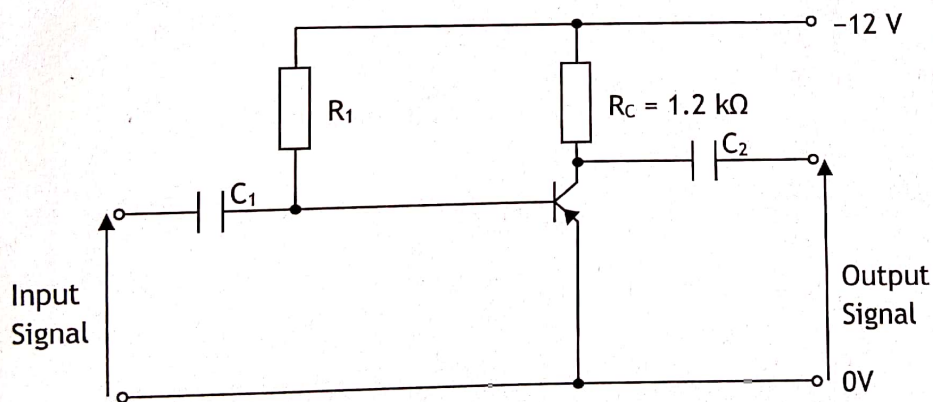

Fig Q9
9. Fig Q9 shows the circuit of a bipolar transistor amplifier.